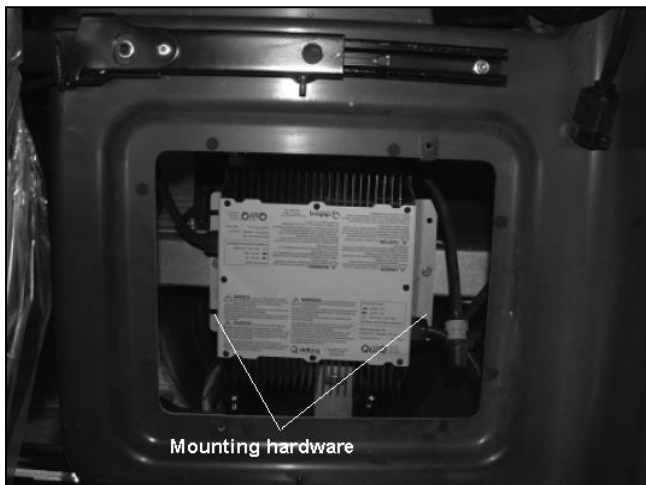

Figure 8-10
3. Remove nuts, washers, bolts and charger (Figure 8-10).
1. Position new charger to mounting bracket (Figure 8-10).